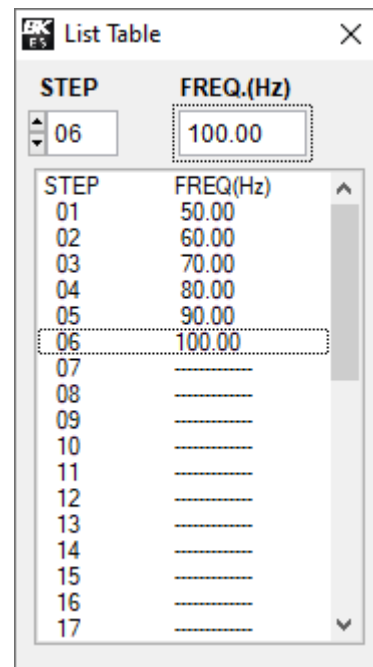

Figure 6.3 List Sweep
- **List:** Create a custom sweep. A separate window will appear allowing the customization of 40 steps in a sweep. See Figure 6.3